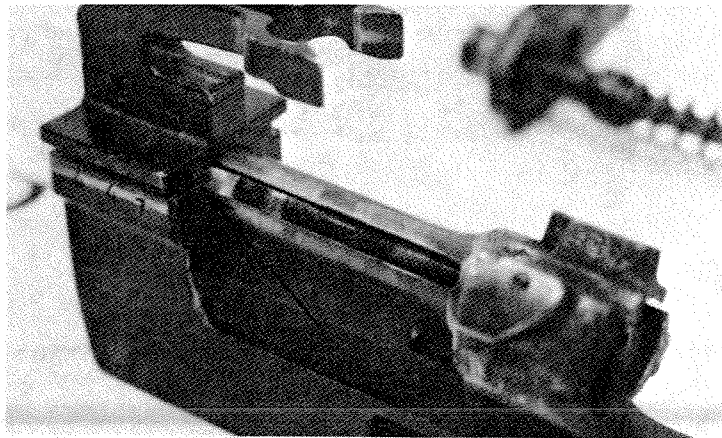
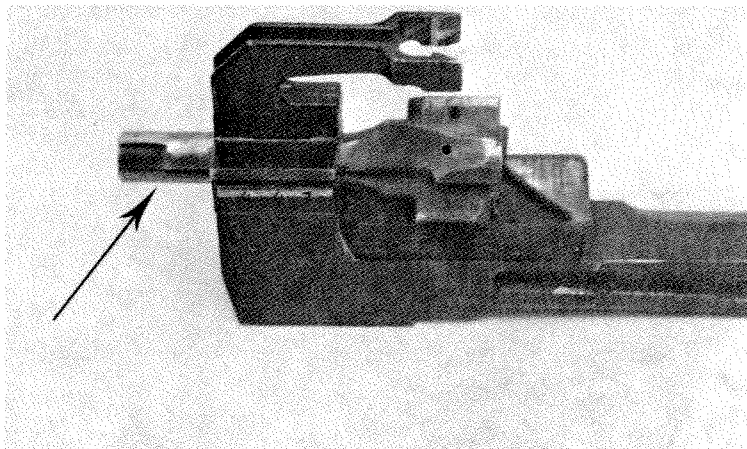

Figure 5-6. Rotating bolt inserted, and groove on sliding cam aligned with notch on firing pin.
Figure 5-7. Rotating bolt in the rearward position of the sliding cam.
e. To replace the rotating bolt in the sliding cam, align the notch on the firing pin with the groove on the sliding cam (fig. 5-6). Push the rotating bolt to the rear while turning the rotating bolt clockwise (fig. 5-7).